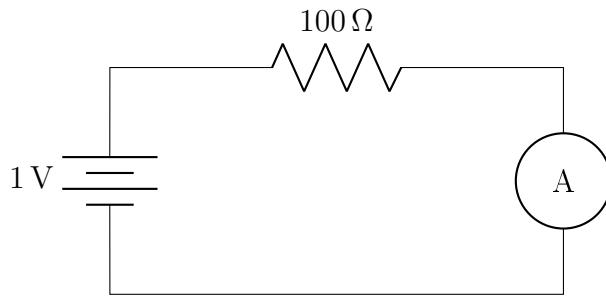

Figure 7: Circuit used to measure the internal resistance  $R_M$  of the ammeter
To determine the resistance of the DC ammeter, set up a circuit as shown in Figure 7.
3. Assemble the circuit shown in Figure 7. Set the multimeter to the ammeter mode for DC current measurement.
6. Determine the value of  $R_M$  from Equation (4).